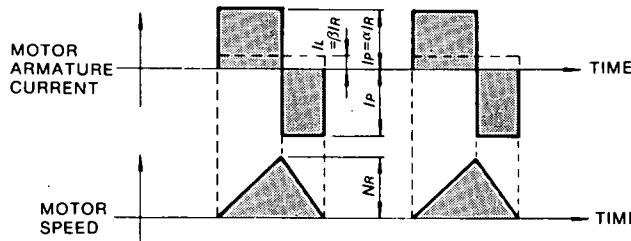

Fig. 4.4 Timing Chart of
- When the motor remains at standstill between cycles of acceleration and deceleration without continuous rated speed running (Fig. 4.4).
The timing chart of the motor armature current and speed is as shown in Fig. 4.4. The allowable frequency of operation "n" can be calculated as follows: